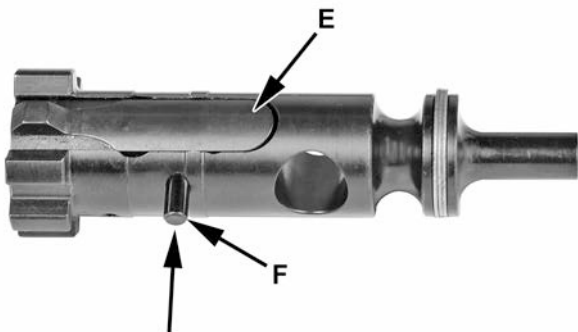

Figure 37
2. Install extractor (G) with insert and spring into bolt (B) and install extractor pin (F). Extractor pin must not extend outside the bolt on either side. See figure 37.